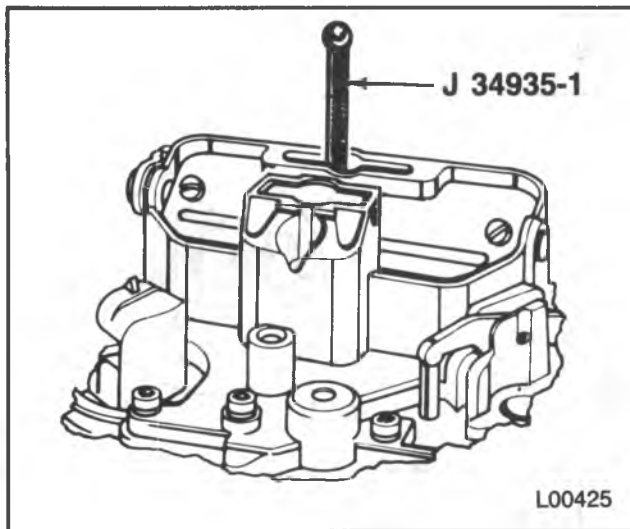

Figure 28 — Float Level — External Check
- With the engine idling and the choke valve wide open, insert J 34935-1 in the vent slot or vent hole (figure 28).